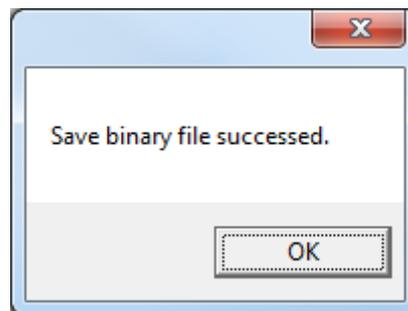

Figure 16. FW setting success
8) Click the “OK” button to complete writing the new settings, as shown in Figure 16.